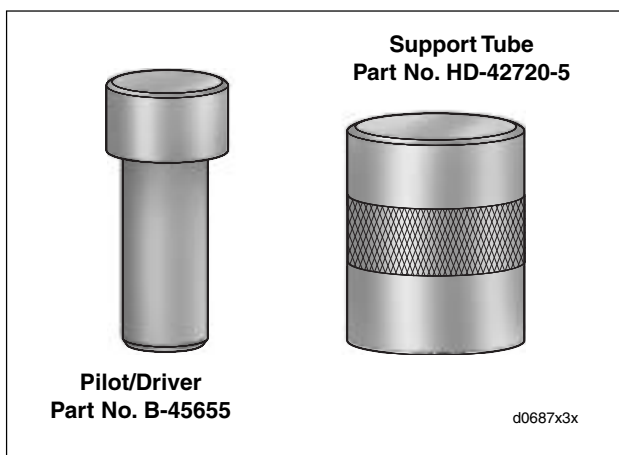

Figure 3-125. Crankshaft/Sprocket Shaft Bearing Pilot/Driver and Support Tube
1. See Figure 3-125. Obtain CRANKSHAFT/SPROCKET SHAFT BEARING REMOVER/INSTALLER PILOT/DRIVER (B-45655) and CRANKSHAFT/SPROCKET SHAFT BEARING REMOVER/INSTALLER SUPPORT TUBE (HD-42720-5).
5. See Figure 3-125. Obtain CRANKSHAFT/SPROCKET SHAFT BEARING REMOVER/INSTALLER SUPPORT TUBE (HD-42720-5) and CRANKSHAFT/SPROCKET SHAFT BEARING REMOVER/INSTALLER PILOT/DRIVER (B-45655).
1. See Figure 3-125. Obtain CRANKSHAFT/SPROCKET SHAFT BEARING REMOVER/INSTALLER SUPPORT TUBE (HD-42720-5) and CRANKSHAFT/SPROCKET SHAFT BEARING REMOVER/INSTALLER PILOT/DRIVER (B-45655).